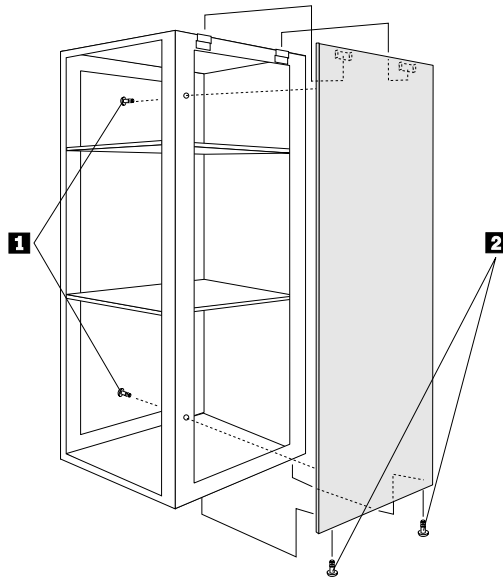

Figure 17. Installing the side-panel
10. Install the left side-panel you removed from the PC Server Rack to the left side of the PC Server Expansion Rack. Refer to Figure 17.